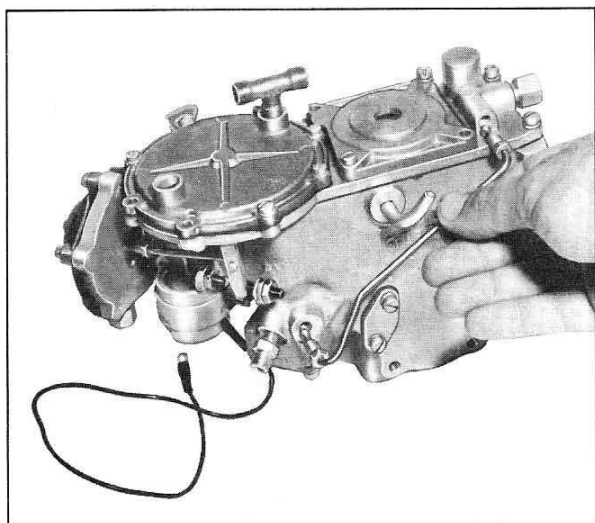

Fig. 27 Installing Starting By-Pass Fuel Line
8. Reinstall starting by-pass fuel line, Fig. 27.